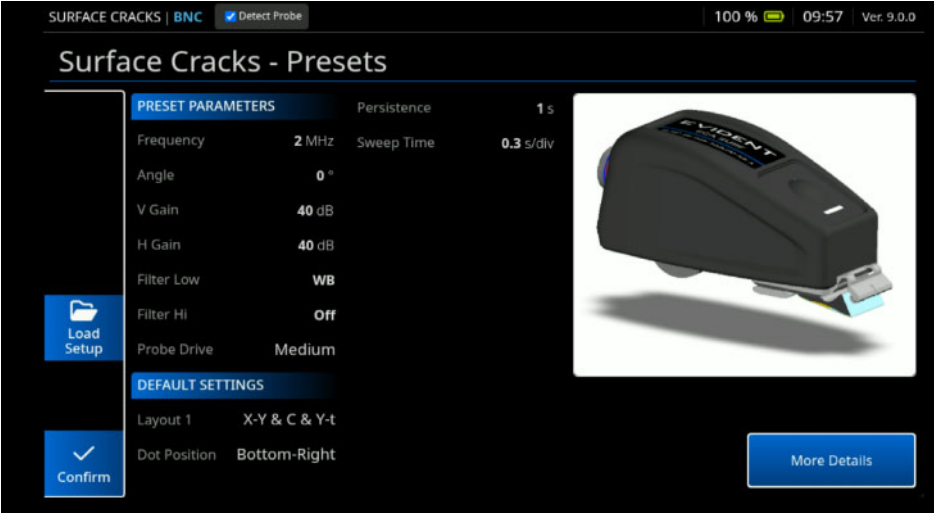

Figure 4-23 Surface Cracks Presets with ECA
- 2. Press **Confirm** to launch the SURF-026-008-300k03M-DP-A base use case (See Figure 4-23 on page 139).